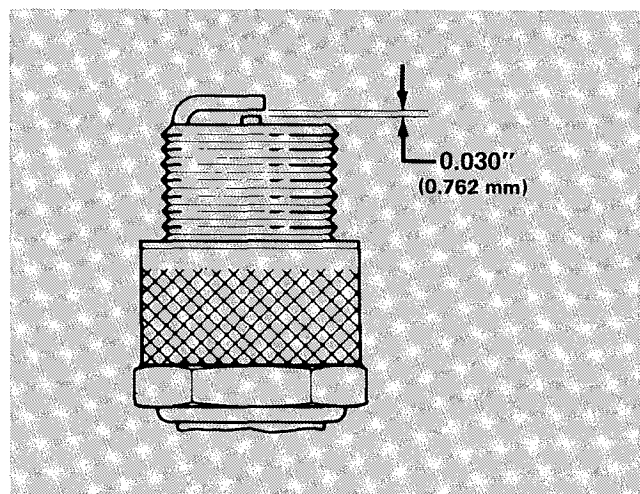

Figure 18
5. Set air gap between center and side electrodes at 0.030 of an inch (0.762 mm) (Fig. 18). Install correctly gapped spark plug w/gasket seal, and tighten plug to 15 ft-lb (20.4 N·m). If torque wrench is not used, tighten plug firmly.